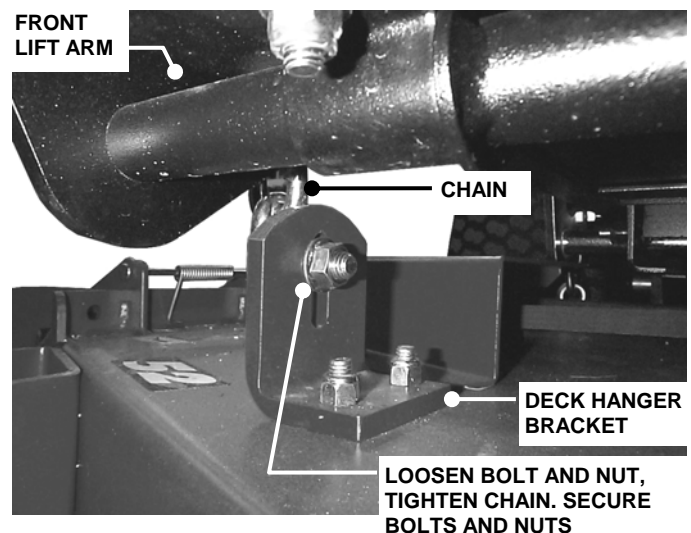
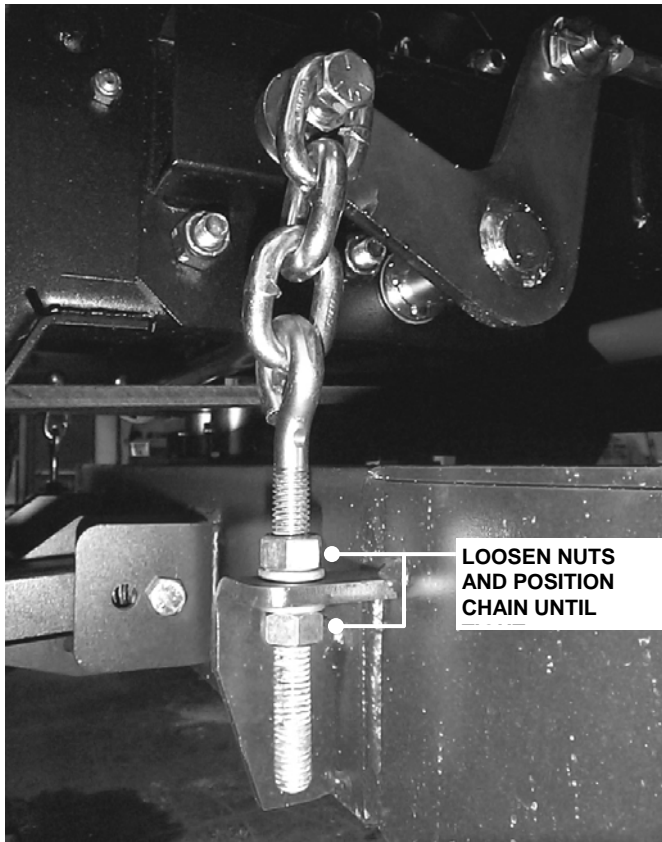

FIGURE 5.5
FIGURE 5.6
6. Loosen the nuts and bolts that secure both front deck support chains. Adjust chains until tight and retighten bolts and nuts. Torque to 70 ft. lbs. See Figure 5.5.
7. Loosen the nuts that secure both rear deck support eyebolts (slotted brackets on 61, See Figure 5.5). Adjust to remove slack from both rear chains. Tighten nuts securely. See Figure 5.6.